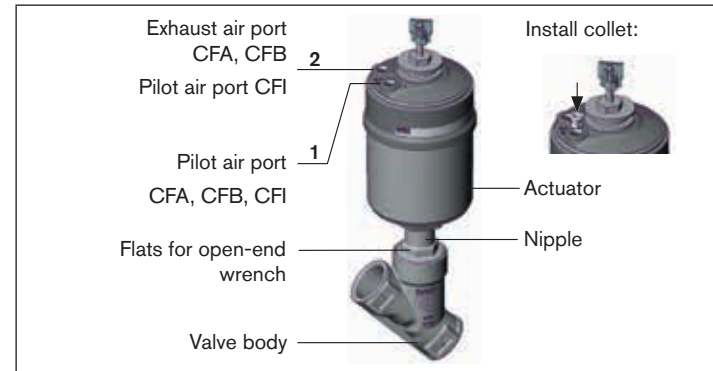

Fig. 3: Installation
- Control function A pressurize the pilot air port 1 (see "Fig. 3") with compressed air (5 bar): valve opens.
→ Control function A pressurize the pilot air port 1 (see "Fig. 3") with compressed air (5 bar): valve opens.